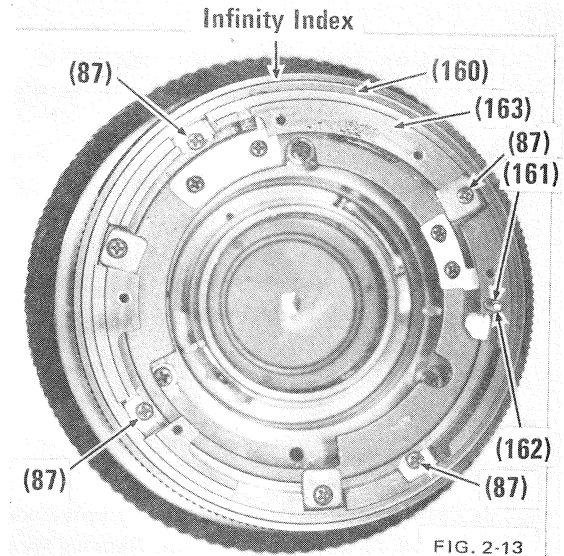

FIG. 2-13
f) Remove the EE switch pin (161) and spring (162). Fig. 2-13.
g) Position the lens so that the infinity index line is at the 12 o'clock position. Remove four screws (87) that attach the mount frame (163) to the inner helicoid. Fig. 2-13.
h) Remove aperture ring (160) and mount frame. (Mount frame retains aperture ring in position.) Fig. 2-13.